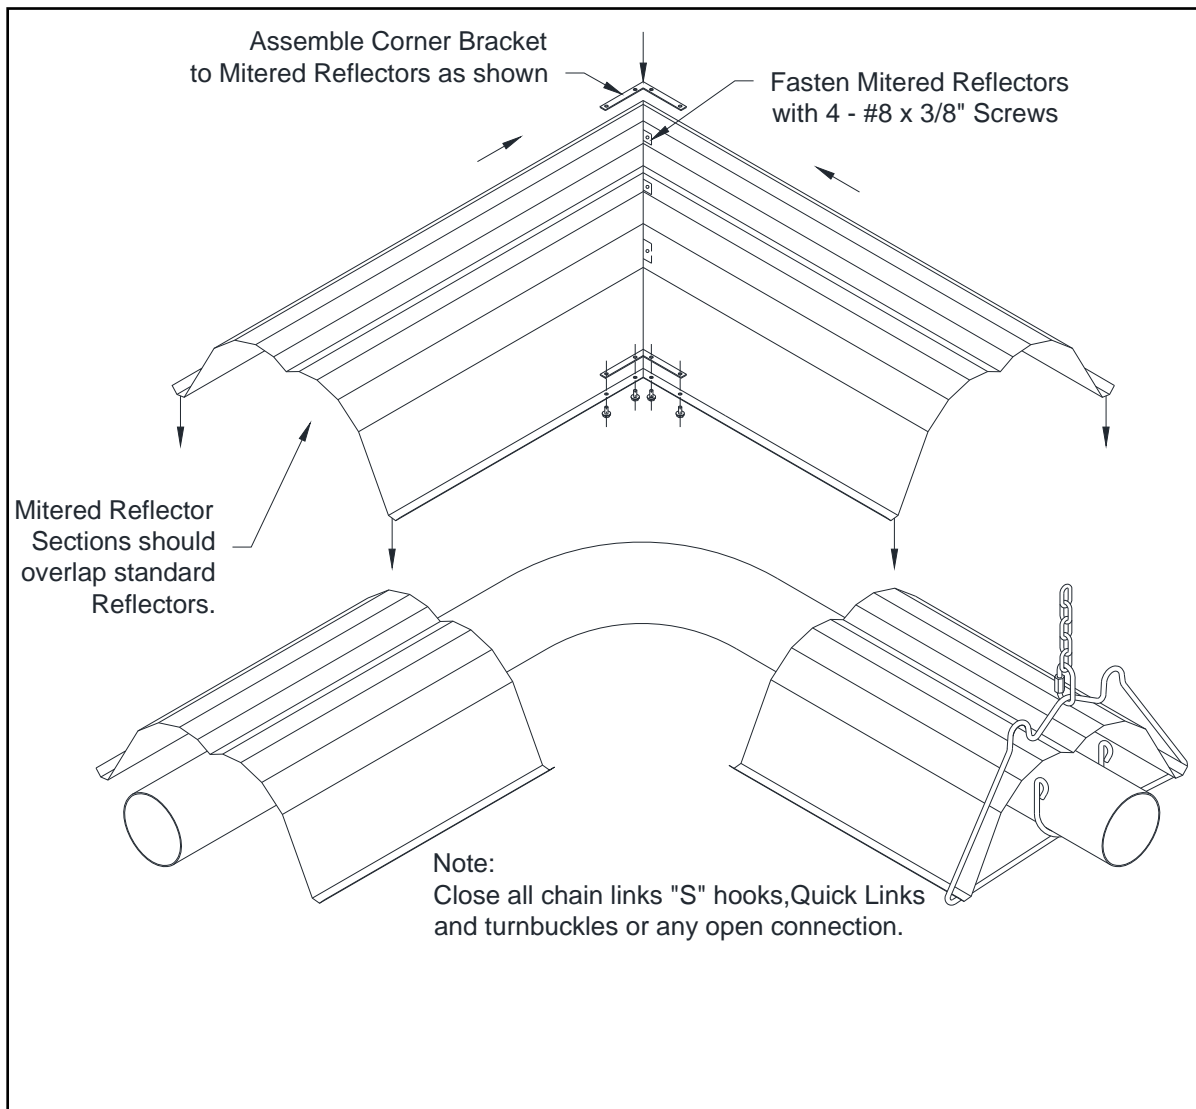

**Figure 17: 90° Elbow and U-Tube Assembly Detail**
- If required by the heater layout, install 90° elbows or U-tube where indicated. Refer to **Figure 17** for details.